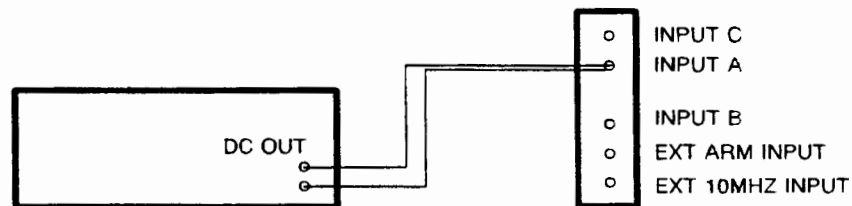

Figure 5-10. Input A Trigger Level Test Configuration
2. Connect the counter to the DC Standard as shown in Figure 5-10 and set the DC Standard output voltage to 5.000 V.